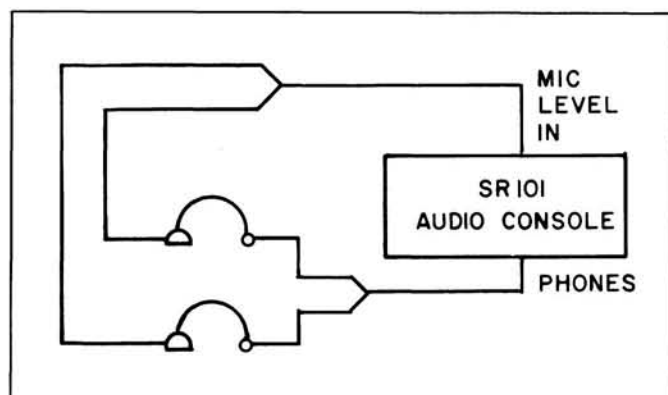

FIGURE 10. TALKBACK CIRCUIT
To use low-impedance (not carbon) microphones, connect the microphone of a single headset-microphone to a Console MIC LEVEL Input Jack (33) (see Figure 10, Page 13). Connect the headset to the front-panel PHONES Jacks (8). For high-impedance headphones, connect to the rear-panel MONITOR LINE LEVEL Jack (30). Additional headsets may be connected through "Y" adapters to the PHONES or MONITOR LINE LEVEL Jack. If additional microphones are to be connected, "Y" adapters (Switchcraft 391Q13, 391Q53 or equivalent) should be used to connect these to the MIC LEVEL Input Jack. Depress the MONITOR Switch (12) for the talkback channel and adjust the MONITOR Level Control (10) as desired. Do not depress the PROGRAM Switch (13).